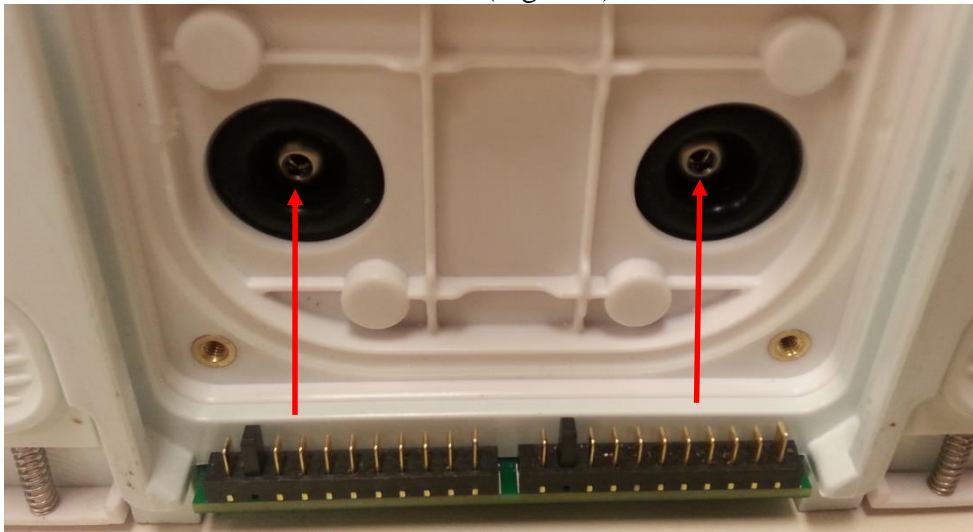

Figure 5: Compressor screws
1. Unscrew the two screws attaching the filter body to the compressor on the underside of the device with a 4mm Allen wrench (Figure 5).
2. Add the washers and reinstall the two screws connecting the filter body to the compressor, lightly tightening by hand (Figure 7). Place two screws on the filter body to the chassis (Figure 5). Torque these screws to 10 in-lbs.